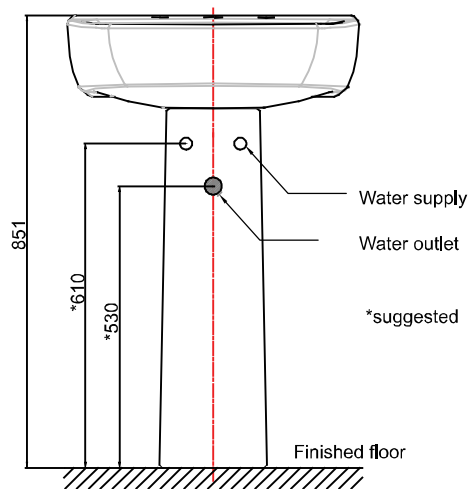

Fig. 2
- Fig.2 for installing with full-pedestal(TF-0765)